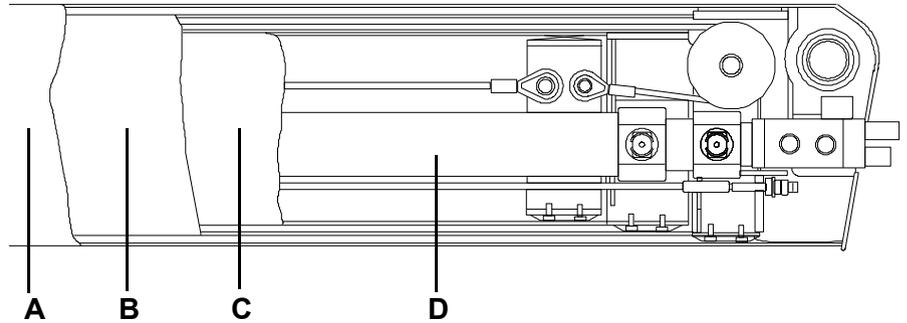

Fig. 235 Rope mechanism in the telescopic boom
Telescope 2 (C) in Fig. 235 is pushed out of the telescoping cylinder at the same time when telescope 1 (B) in Fig. 235 is pushed out by the rope mechanism.